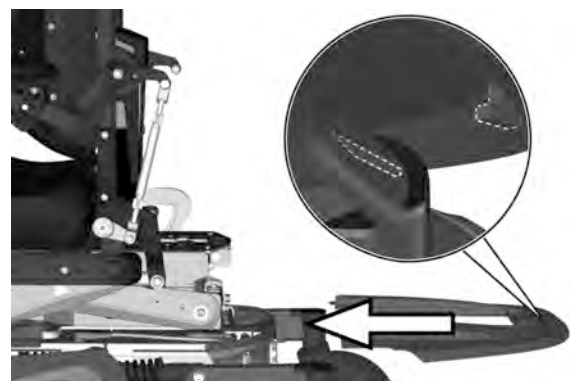

Figure 38. The chassis top cover.
7. Refit the top chassis covers on to the chassis. See fig. 38.